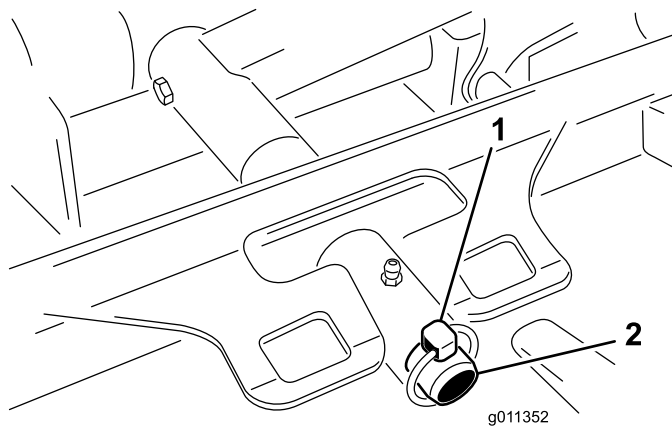

Figure 59
3. Remove the lynch pin or retaining nut (GM 4700 only) securing the deck carrier frame to the lift arm pivot pin (Figure 59).
3. Slide deck carrier frame onto lift arm pivot pin. Secure with lynch pin or retaining nut (GM 4700 only) (Figure 59).